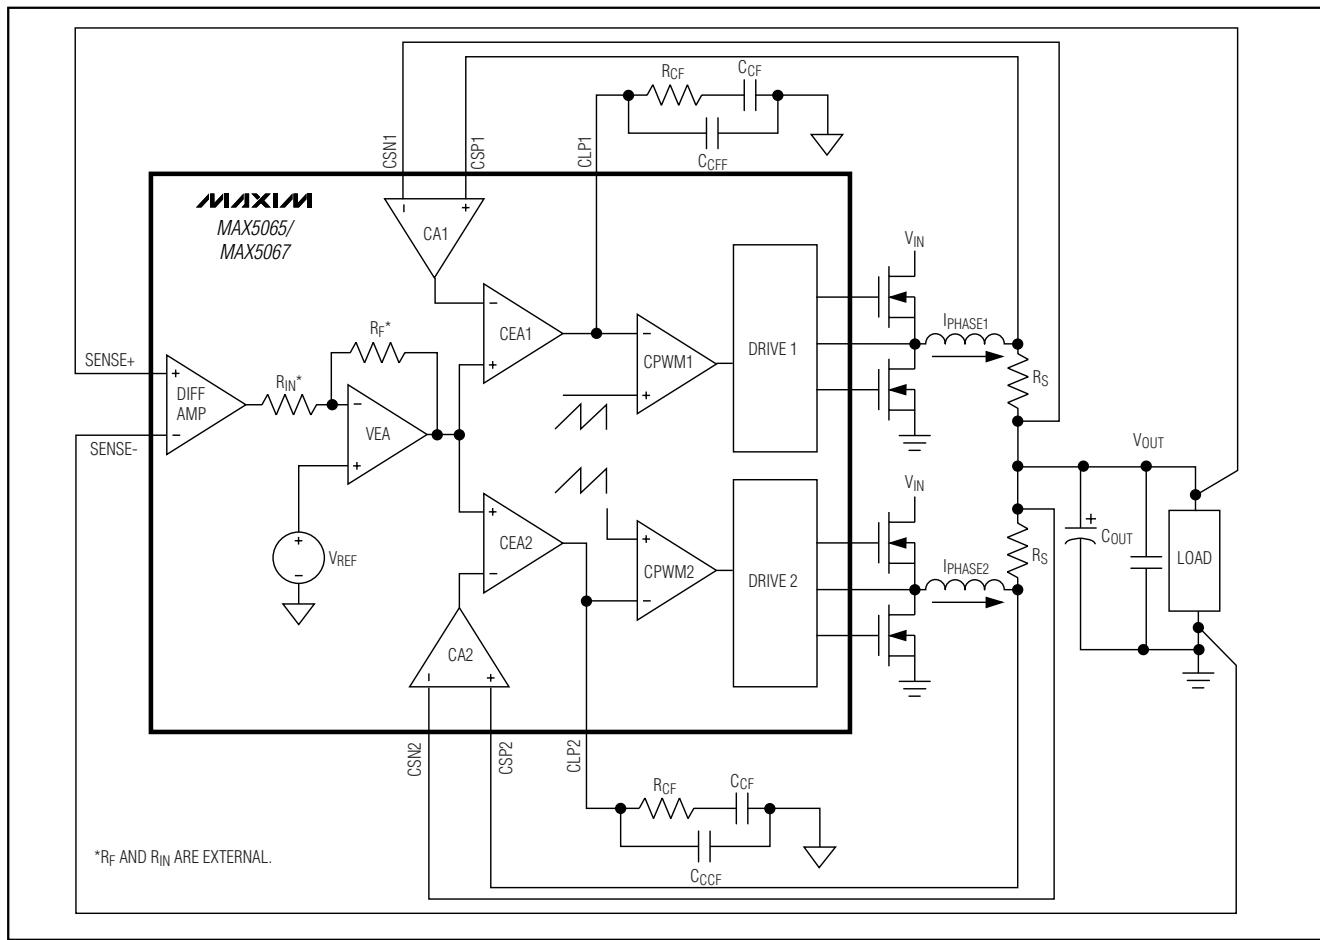

Figure 4. MAX5065/MAX5067 Control Loop
The MAX5065/MAX5067 use an average-current-mode control scheme to regulate the output voltage (Figure 4). The main control loop consists of an inner current loop and an outer voltage loop. The inner loop controls the output currents (IPHASE1 and IPHASE2) while the outer loop controls the output voltage. The inner current loop absorbs the inductor pole reducing the order of the outer voltage loop to that of a singlepole system.
The outer voltage control loop consists of the differential amplifier (DIFF AMP), reference voltage, and VEA. The unity-gain differential amplifier provides true differential remote sensing of the output voltage. The differential amplifier output connects to the inverting input (EAN) of the VEA. The noninverting input of the VEA is internally connected to an internal precision reference voltage. The MAX5067 reference voltage is set to +0.8V and the MAX5065 reference is set to +0.6V. The VEA controls the two inner current loops (Figure 4). Use a resistive feedback network to set the VEA gain as required by the adaptive voltage-positioning circuit (see the *Adaptive Voltage Positioning* section).
Each phase of the MAX5065/MAX5067 has a dedicated transconductance current-error amplifier (CEA+) with a typical  $g_m$  of 550 $\mu$ S and 320 $\mu$ A output sink and source current capability. The current-error amplifier outputs, CLP1 and CLP2, serve as the inverting input to the PWM comparator. CLP1 and CLP2 are externally accessible to provide frequency compensation for the inner current loops (Figure 4). Compensate CEA+ so the inductor current down slope, which becomes the
The differential amplifier (DIFF AMP) facilitates output voltage remote sensing at the load (Figure 4). It provides true differential output voltage sensing while rejecting the common-mode voltage errors due to high-current ground paths. Sensing the output voltage
The VEA output clamps to +0.9V relative to VCM (+0.6V), thus limiting the average maximum current from individual phases. The maximum average current-limit threshold for each phase is equal to the maximum clamp voltage of the VEA divided by the gain (18) of the current-sense amplifier. This results in accurate settings for the average maximum current for each phase. Set the VEA gain using RF and RIN for the amount of output voltage positioning required within the rated current range as discussed in the *Adaptive Voltage Positioning* section (Figure 4).
Average-current-mode control has the ability to limit the average current sourced by the converter during a fault condition. When a fault condition occurs, the VEA output clamps to +0.9V with respect to the common-mode voltage ( $V_{CM} = +0.6V$ ) and is compared with the output of the current-sense amplifiers (CA1 and CA2) (see Figure 4). The current-sense amplifier's gain of 18 limits the maximum current in the inductor or sense resistor to  $I_{LIMIT} = 50\text{mV}/R_S$ .